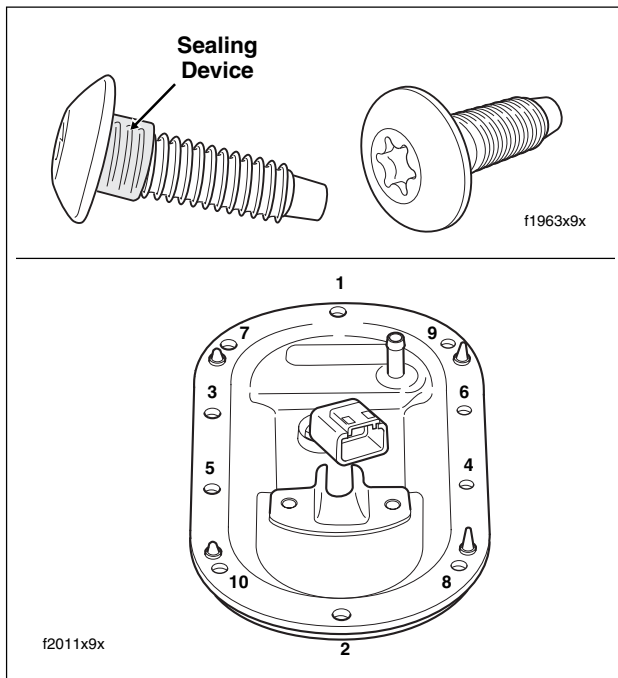

Figure 9-15. Canopy Sealing Screws and Torque Sequence
Check canopy screws for proper sealing devices. Screws must have a bonded seal on underside of head. Replace screws if seal is missing or damaged. See Figure 9-15.
5. While pushing down on the canopy, align holes in canopy with those in fuel tank. Hand start ten **new** T20 TORX screws in perimeter of canopy. Tighten screws to 18-24 **in-lbs** (2.0-2.7 Nm) using the pattern shown in Figure 9-15.